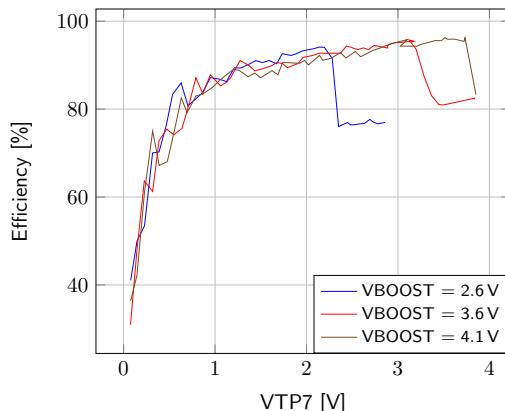

Figure 9: Boost efficiency for $ITP7 = 1 \text{ mA}$
- **VBOOST**: Measure the current and the voltage. Repeat the measurement a copious number of times to be sure to capture the current peaks. Figure 9 has been obtained by averaging over 100 measurements configured with a 100 ms integration time.